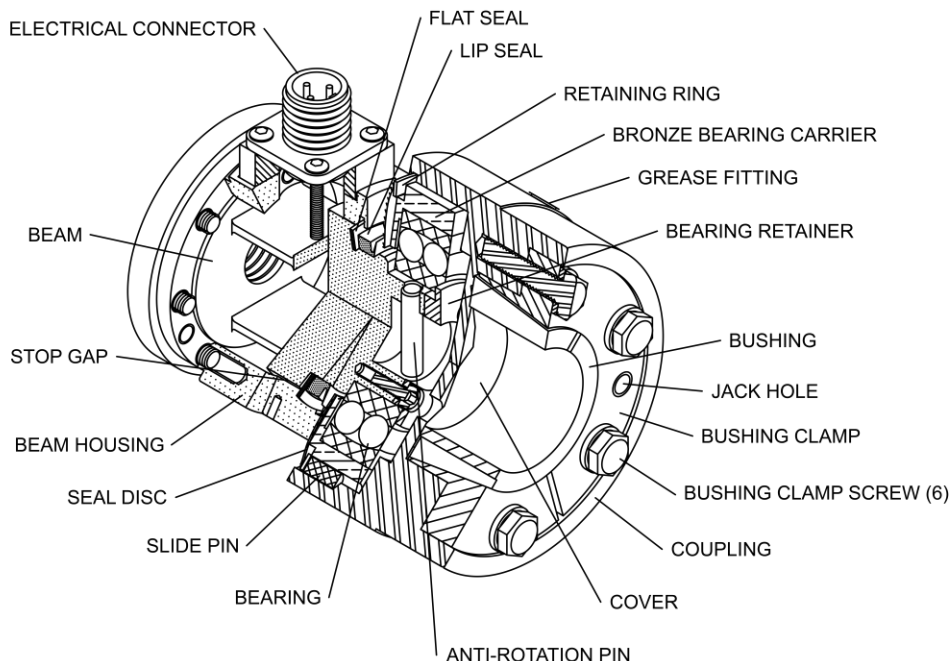

Figure 1 - LIVE SHAFT VERSION CUT-AWAY VIEW
1.1 CONSTRUCTION AND MECHANICAL OPERATION (SEE FIGURES 1 & 2)